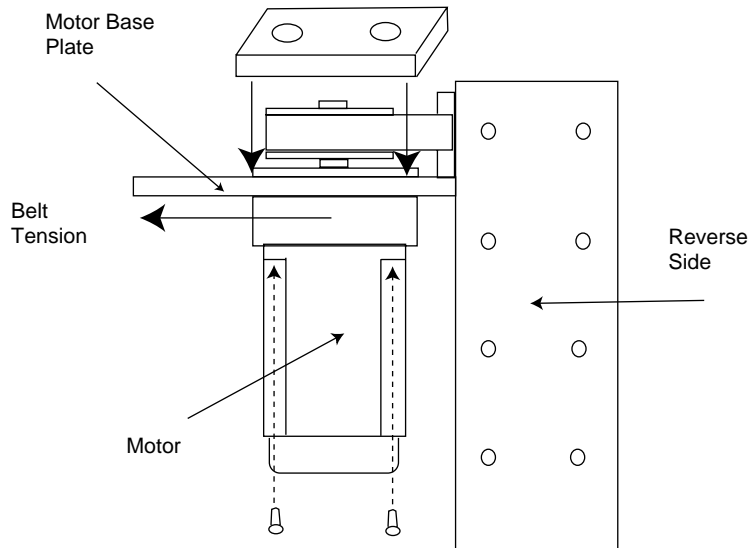

Figure B-9. Motor Installation
15. Install the motor and drive pulley (see Figure B-9).